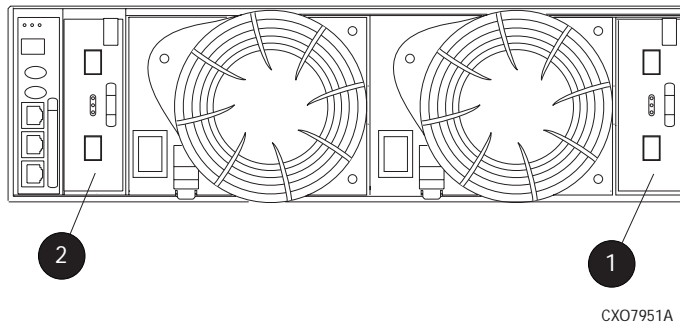

Figure 61 I/O module element numbering
- *en.* is the two-character I/O module element number (see Figure 61)